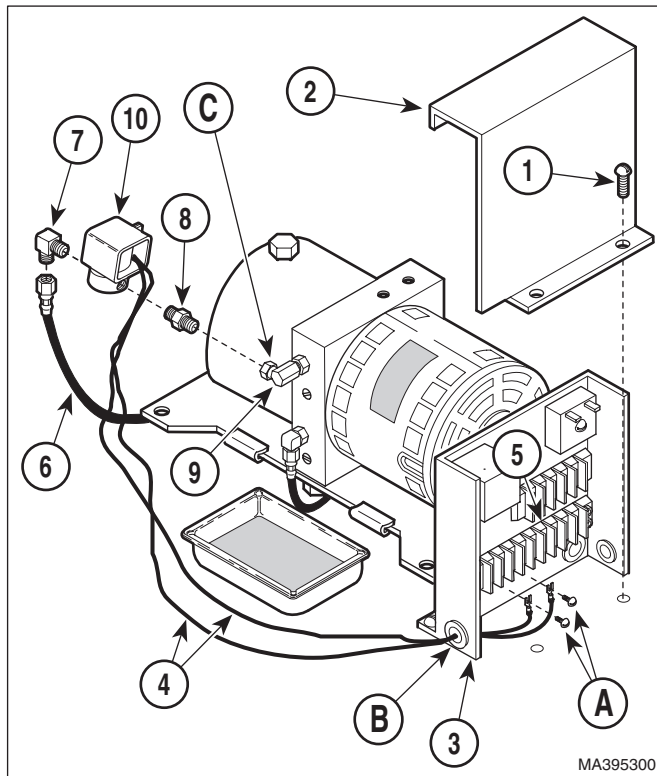

Figure 4-5. Anti-cavitation Solenoid Valve Removal / Installation
- (1) Unplug table power cord from outlet.
- (2) Remove motor cover assembly (Refer to para 4.2).
- (3) Remove two screws (1, Figure 4-5) and control cover (2) from control panel (3).
- (4) Loosen two terminal screws (A); then tag and disconnect anti-cavitation solenoid valve wires (4) from terminal block (5).
- (5) Pull anti-cavitation solenoid valve wires (4) out thru wire hole (B).
- (6) Disconnect hose assembly (6) from elbow (7).
- (7) Using a wrench to hold male connector (8) stationary, loosen jam nut (C) of elbow (9). Disconnect male connector (8) from elbow (9).
- (8) Remove elbow (7) and male connector (8) from anti-cavitation solenoid valve (10).